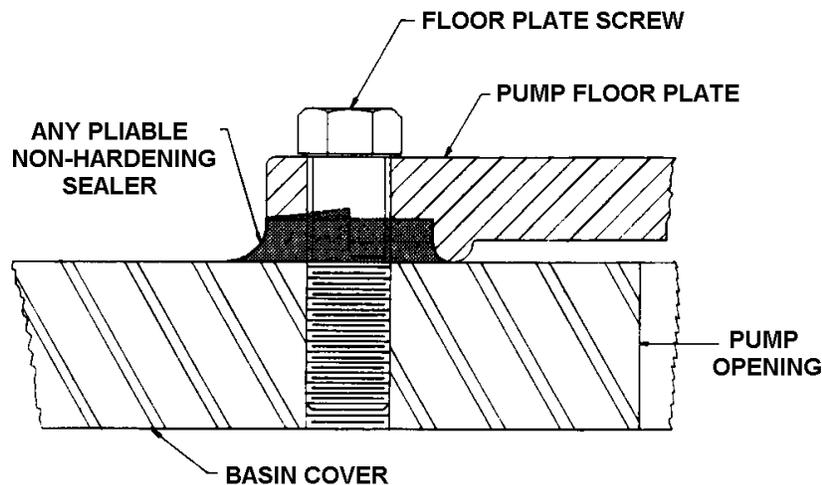

Figure 2 Sealing the Pump Floor Plate
3. To block moisture and gas exchange between the basin pool and surrounding areas, the pump floor plate should be sealed to the basin cover as shown in figure 2.